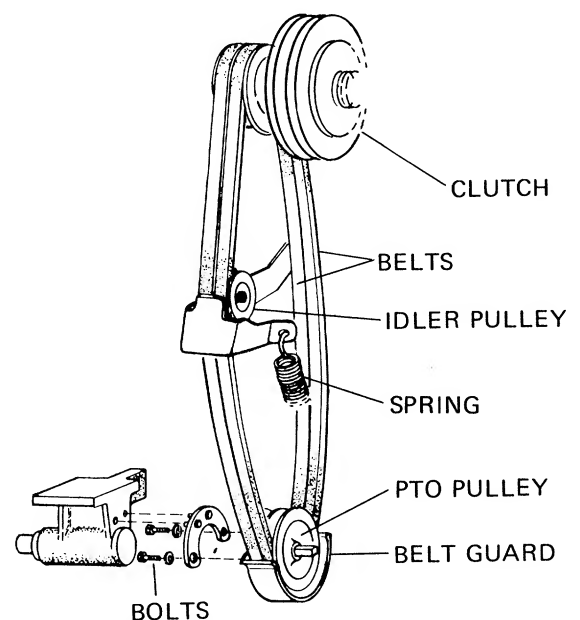

FIG. 6
There are two PTOs on your tractor. One is located under the frame of the tractor and is to be used for the cutting attachment and rotary tiller. This PTO has a disengagement lever located on the RH side of the tractor. It is shown in the picture in the DIS-engaged position. It should be in this position whenever it is not in use. (see Fig. 6)
PTO BELT REMOVAL — To remove the belt: (see Fig. 6)
1. Follow the steps to remove the Power Take Off belts shown in Fig. 6.
2. Attach the Power Take Off belts. (see Fig. 6)